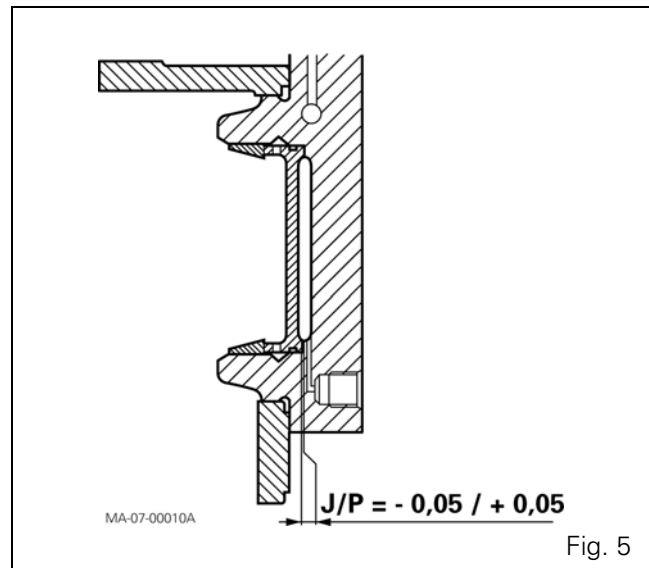

Fig. 5
Note: The shimming (preload or clearance of 0.05) (Fig. 5) must be carried out in cases of operations on the following components: pinion (13), deflector (15), bearing cones (4) (7), bearing cups (3) (8), piston (9), support (10).
39. Carry out the J/P shimming (Fig. 5) to obtain a preload of 0.05 with a clearance of 0.05.